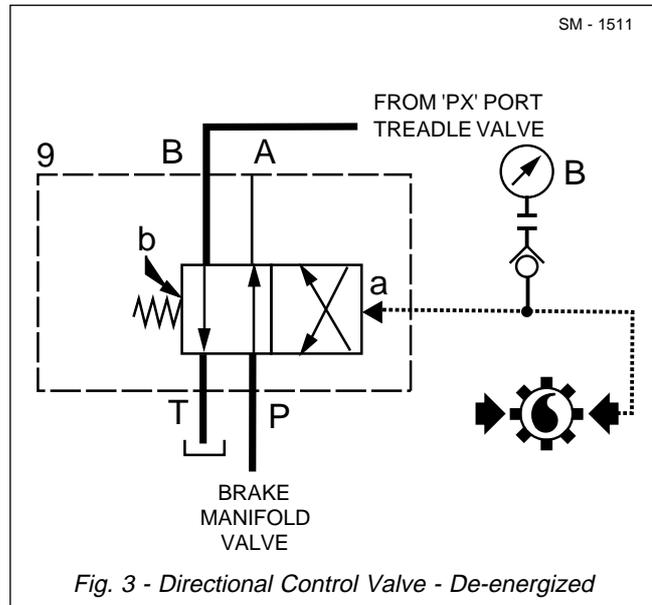

Fig. 3 - Directional Control Valve - De-energized
Refer to Fig. 3. When the engine is shutdown, the park/emergency brake switch is automatically applied and transmission control pressure is relieved from port 'a'. Spring (7) pressure, at port 'b' side of valve body (1), forces spool (3) back, internally linking port 'B' to port 'T'. This results in an open circuit between the brake manifold valve and port 'Px' in the treadle valve.
Refer to Fig. 3. On application of the treadle valve, oil pressure, up to a maximum of 52 bar (750 lbf/in2), flows through a shuttle valve in the front brake lines and enters valve body (1) at port 'FB'. Oil pressure acts on shuttle valve (10) spool, overcomes residual pressure, and pushes shuttle valve (10) spool across to open port 'FB' to port 'RB1'. Oil pressure then leaves port 'RB1' to apply the rear brakes.
Refer to Fig. 3. On application of the retarder valve, oil pressure, up to a maximum of 33 bar (480 lbf/in2), flows through a shuttle valve in the front brake lines and enters valve body (1) at port 'FB'. Oil pressure acts on shuttle valve (10) spool, overcomes residual pressure, and pushes shuttle valve (10) spool across to open port 'FB' to port 'RB1'. Oil pressure then leaves port 'RB1' to apply the rear brakes.